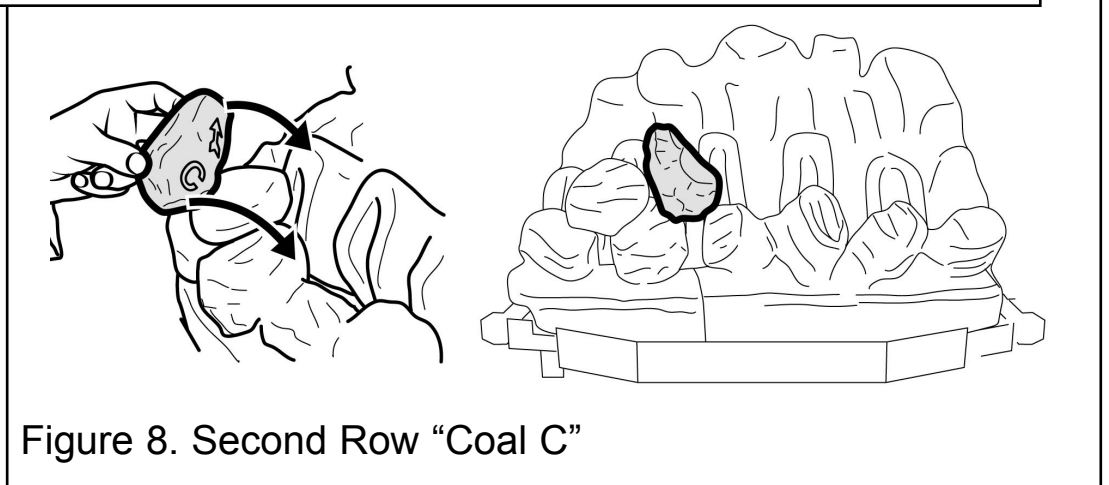

Figure 8. Second Row "Coal C"
9. Hold coal 'C' upright with the arrow pointing to the top. Locate coal 'C' as shown in figure 8.